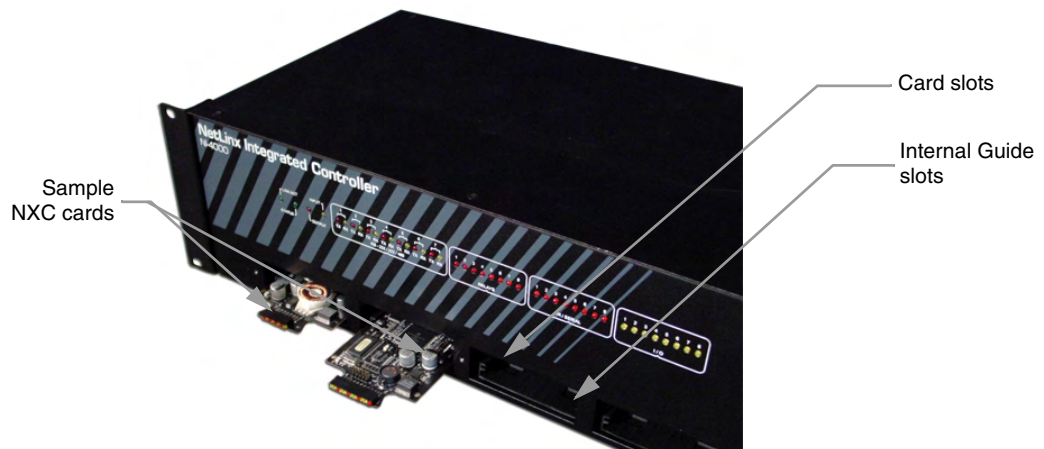

FIG. 19 Sample NXC cards inserted into an NI-4000 unit
3. Align the edges of the card with the internal guide slots and gently slide the card all the way into the slot (FIG. 19).